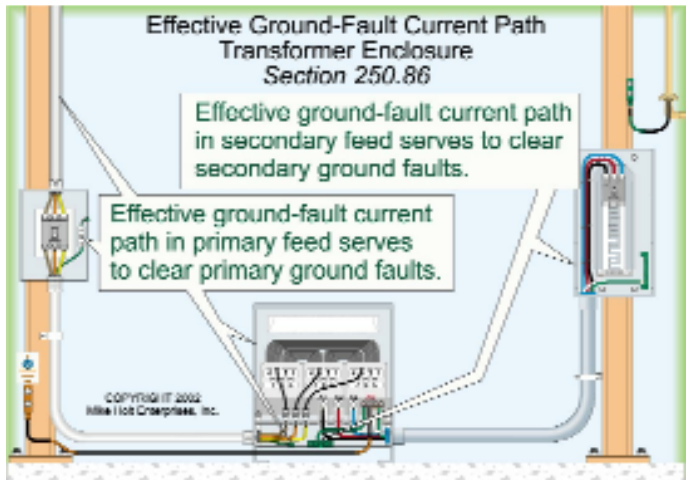

Figure 250-77
**AUTHOR'S COMMENT:** The neutral-to-case bonding jumper establishes the effective ground-fault current path for the equipment grounding (bonding) conductor on the secondary and the separately derived system (secondary). To protect against a primary ground fault, the primary circuit conductors shall contain an effective ground-fault current path. Figure 250-77